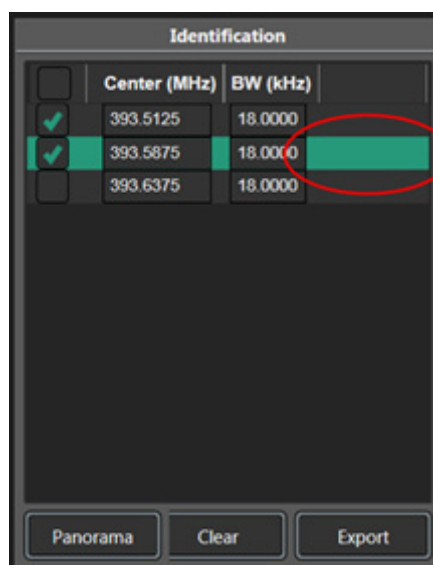

Figure A-6. Identification Window
7. To view the demodulation parameters of any of the three signals, click on the bar located to the right of the bandwidth. See Figure A-6, “Identification Window” for the picture of the Identification window with the ‘bar’ area circled in red.